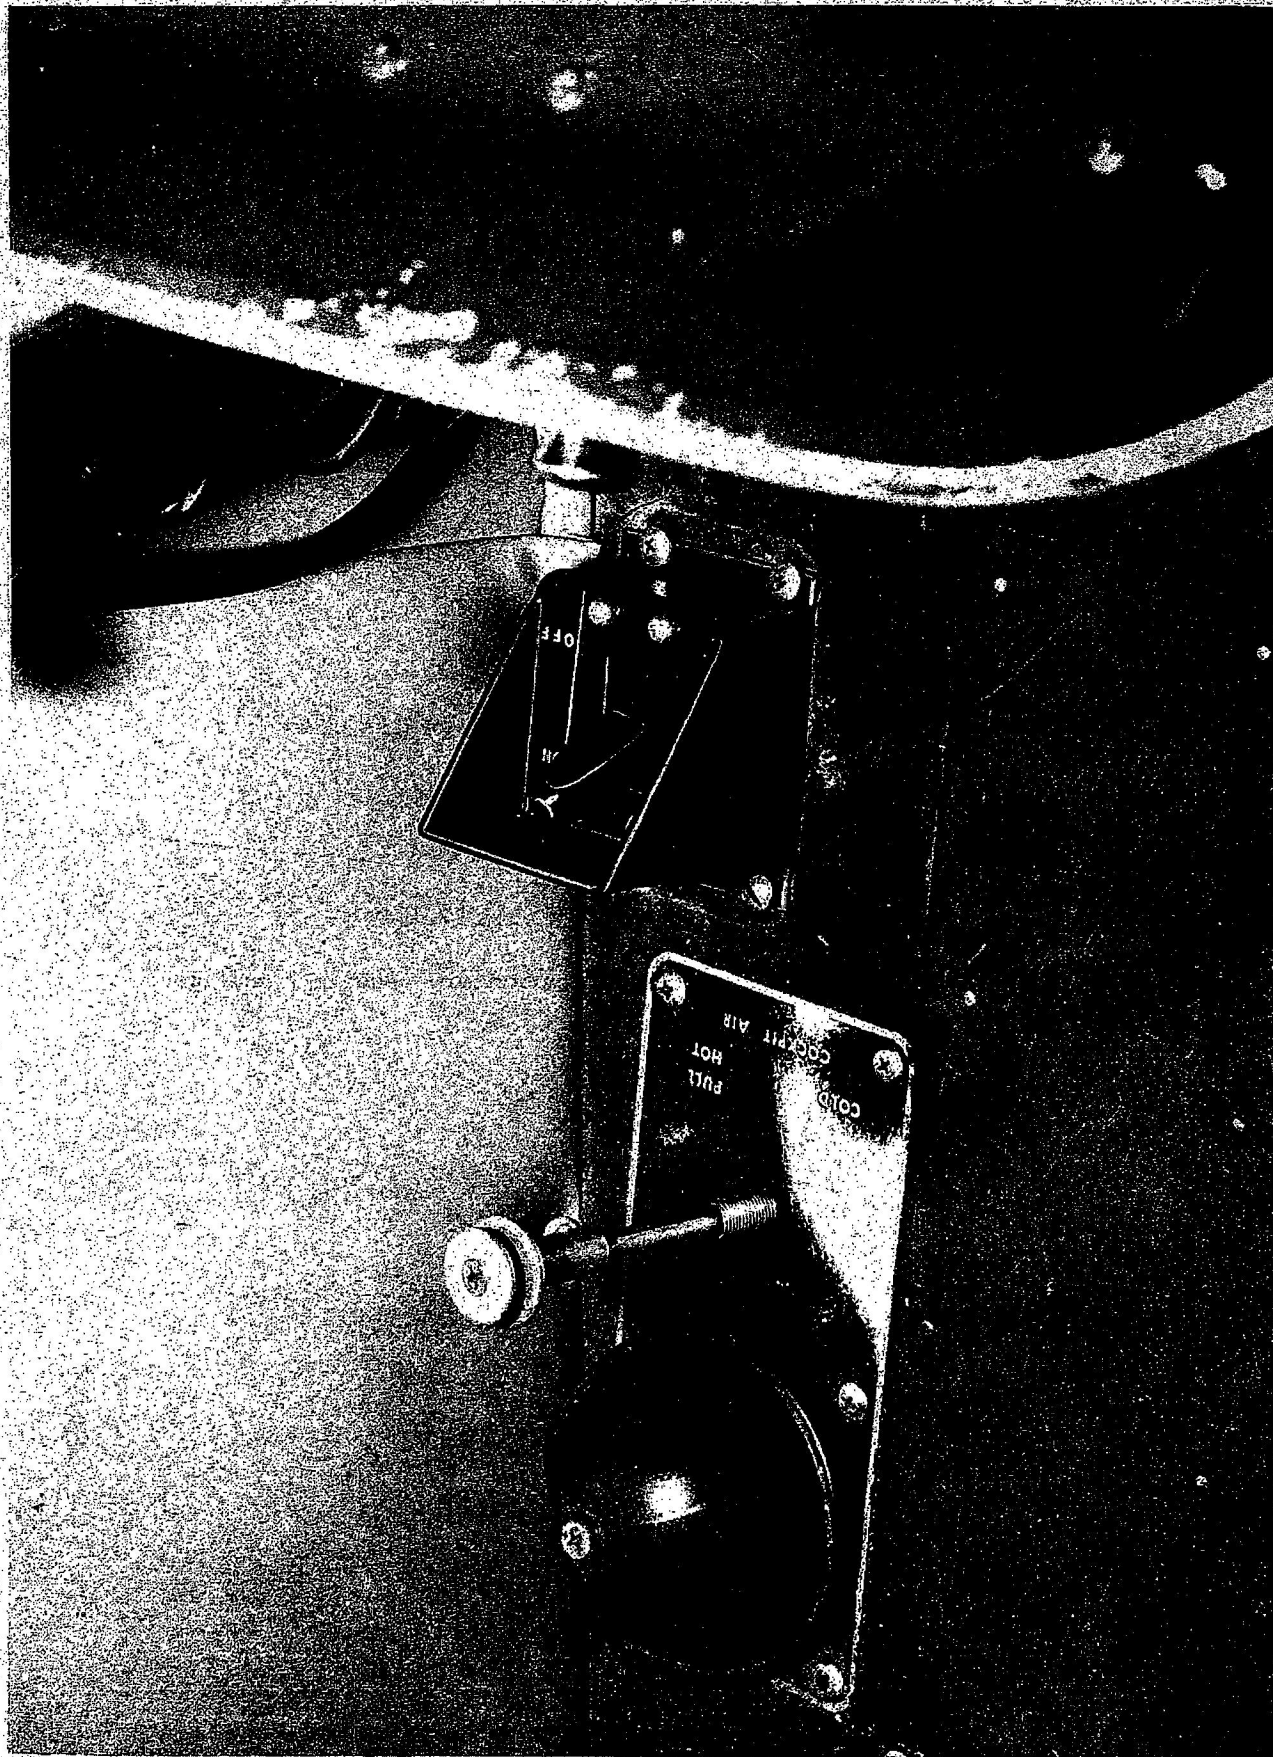

Figure 2
- (g) Install new circuit breakers Ref. 5925-00-144-0482 in brackets and fit assembly to cockpit floor as per Figure 2.